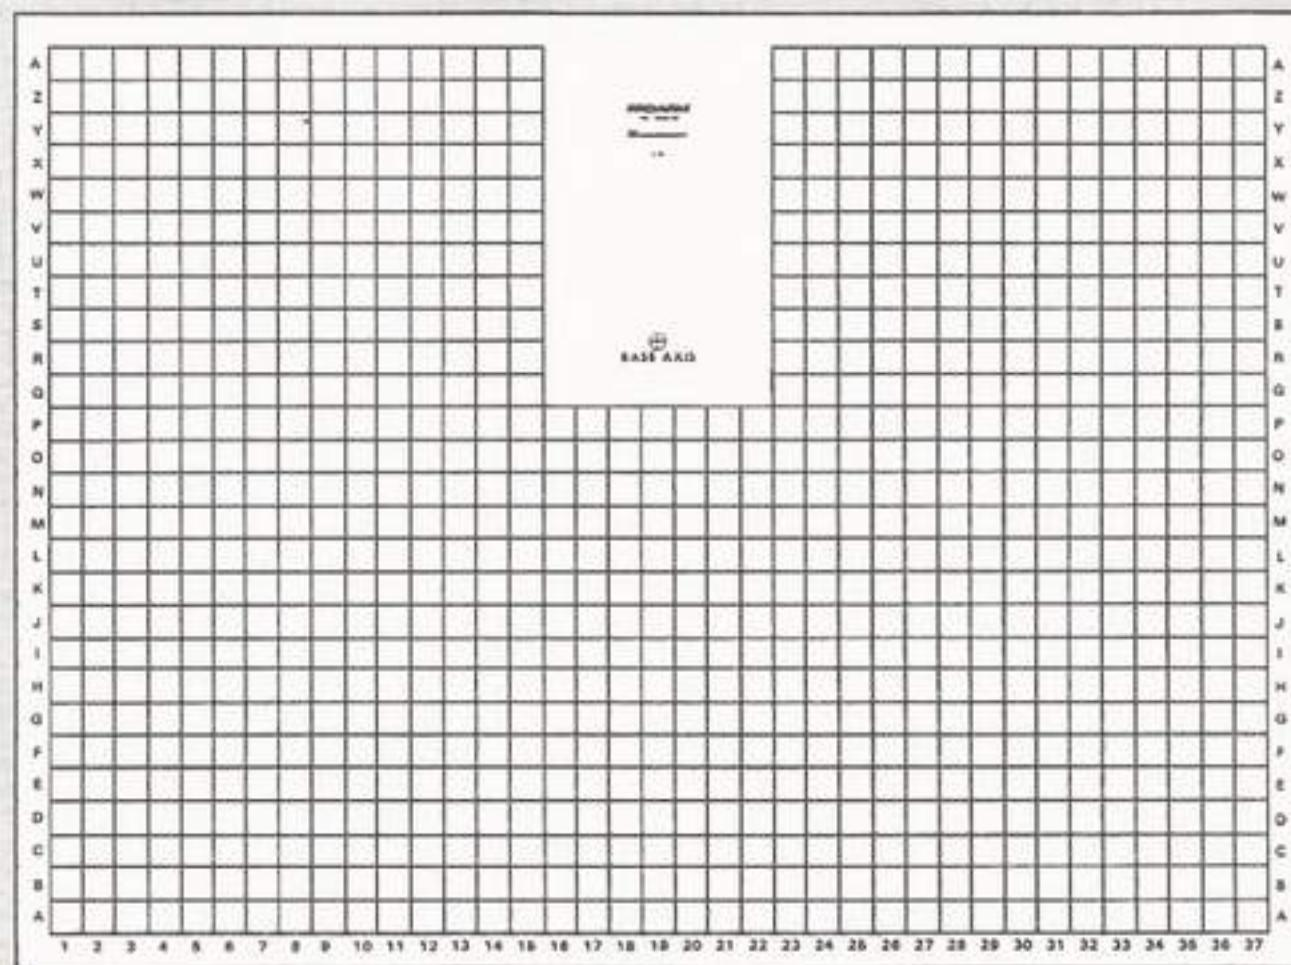

Fig. 83: First Placement Position
- _____ k. Observe and record the exact location of this first placement position, by drawing a circle on the corresponding position of the grid shown in Fig. 83.
- _____ m. During the fourth or fifth cycle, again observe the first and second placement positions of the block, and record them in Figs. 83 and 84, respectively.
- o. Measure the difference, if any, between the first and last placements, as recorded in Fig. 83.
Placement difference (Fig. 83) = _____ inches